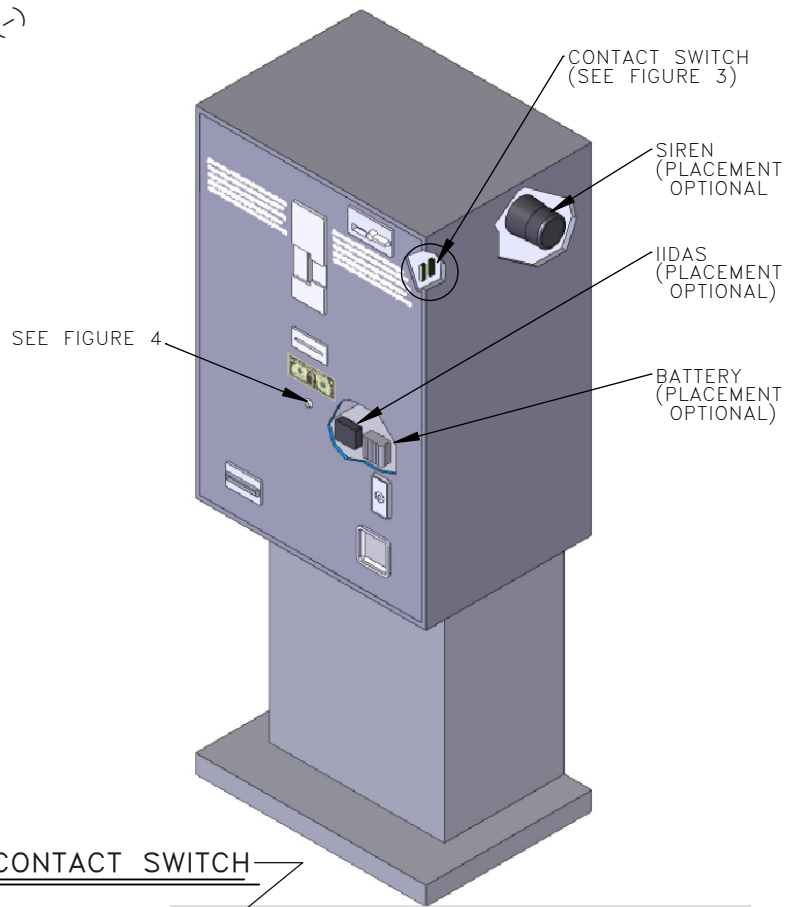

FIGURE 2
***IIDAS®* CONTROLLER:** Remove the two-sided tape backing from the *IIDAS®* **Controller** and attach it to a clean surface on the inside the debit card/smart card/calling card machine's door with the *IIDAS®* LED facing upwards (see Fig. 2). For best performance attach near the lock assembly.
SIREN: Remove the two-sided tape backing from the siren and attach to a clean surface on the inside of the debit card/smart card/calling card machine (see Fig. 2). Use the siren's mounting bracket if possible.
RESET SWITCH (System 104DA): The magnetic contact assembly is used to disarm *IIDAS®* when the service door is opened. Remove the two-sided tape backing and locate a space on the inside of the debit card/smart card/calling card machine's door and attach the switch portion; then attach the magnet portion inside the debit card/smart card/calling card machine, on the door's frame, parallel to the switch. The maximum gap between the switch and the magnet should be no more than ½ inch. Use the spacer or the plastic "L" bracket if necessary. Check installation with a meter to insure proper alignment (Door Open=short, Door Closed=open). (See Fig. 2).